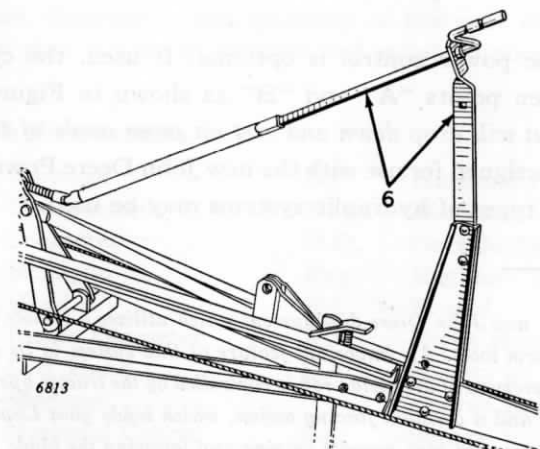

Figure 22—Hand Crank Assembly Installed
6. Install hand crank assembly (in box) as shown in Figure 22. The hand crank assembly is the last installation. When this is complete the Landshaper is ready for preliminary adjustments. For instructions, refer to Page 4.